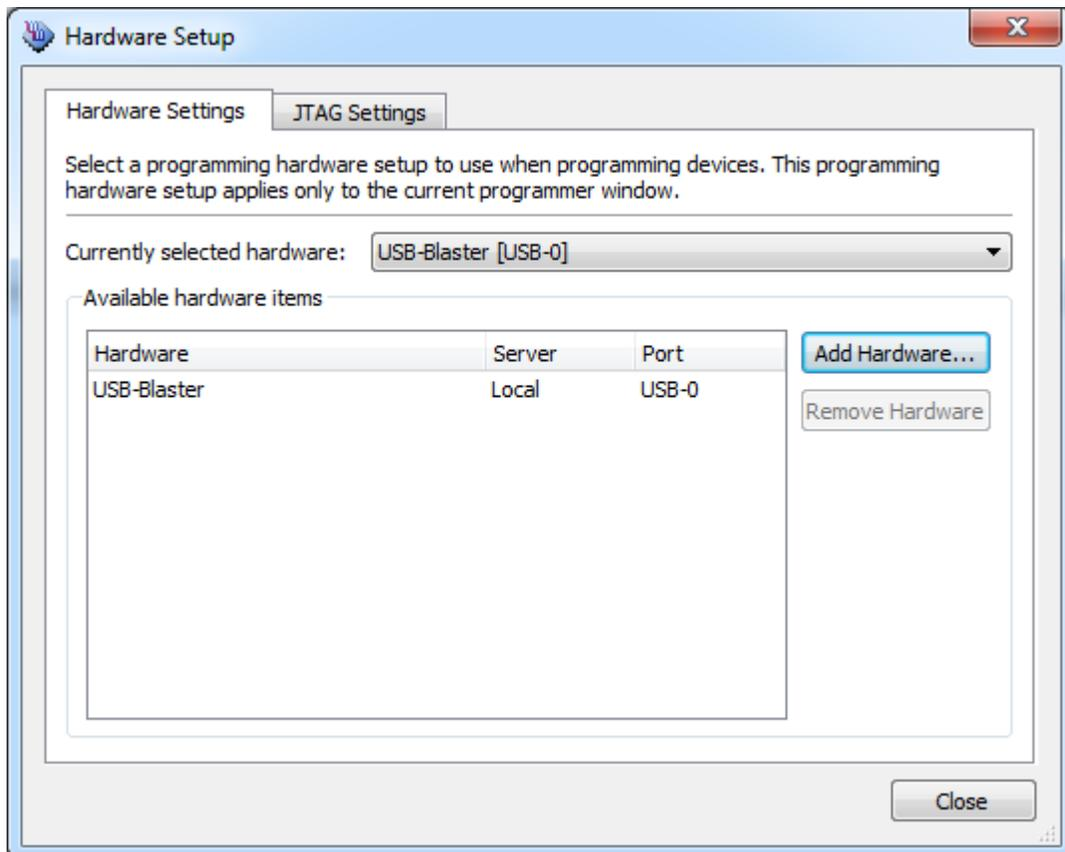

Figure 33. The Hardware Setup window.
3. If not already chosen by default, select JTAG in the Mode box. Also, if the USB-Blaster is not chosen by default, press the Hardware Setup button and select the USB-Blaster, depending on your computer system hardware, as shown in Figure 33.